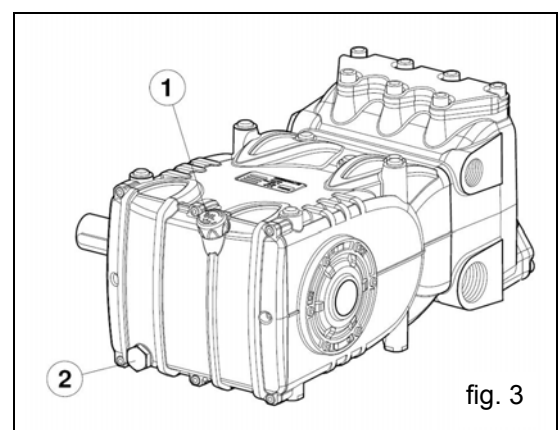

fig. 3
From the oil dipstick pos. ①, fig .3.
The correct checking of the oil level is made with the pump not running, at room temperature. The oil change must be made with the pump at working temperature, removing the: oil dipstick pos. ①, and then the drain plug, pos. ②, fig. 3 .